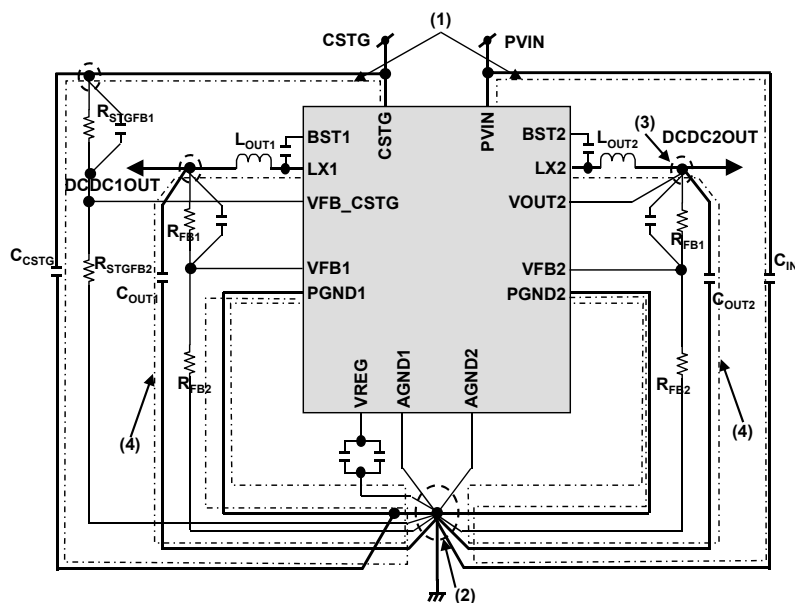

Figure A2-1 : Application circuit diagram
- (a) The Storage Capacitor  $C_{CSTG}$  of CH1 and Input capacitor  $C_{IN}$  of CH2 must be placed in such a way that the distance between CSTG and PGND1 of CH1 as well as PVIN and PGND2 of CH2 is minimum, in order to suppress the switching noise. Stray inductance and impedance should be reduced as indicated by loop (1) shown in the figure A2-1.
- (b) A single point ground connection (2) must be used to connect PGND and AGND to improve operation stability.
- (c) CH2 Output current line  $I_{OUT}$  and the output sense line VOUT2 must have small common impedance to reduce output load variations. Output sense line VOUT2 must be close to the output capacitor  $C_{OUT2}$  as indicated by (3) below.
- (d) Power Loss and output ripple voltage can be reduced by placing the inductor  $L_{OUT}$  and output capacitor  $C_{OUT}$  such that the stray inductance and the impedance of loop (4) is minimum. This is required by :
- ii) Reducing distance for output capacitor  $C_{out}$  between single ground point connection (2) and output connection (3) as shown in Figure A2-1.